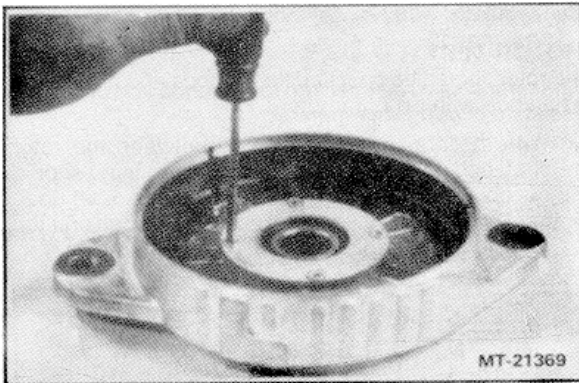

Figure 14 - Removing Drive End Bearing Retainer.
16. Remove four screws and bearing retainer (Figure 14) and press bearing out of drive end housing.